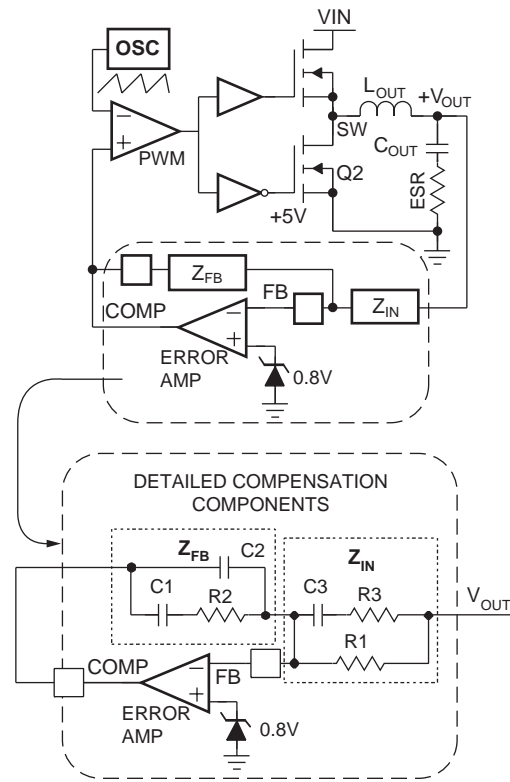

Figure 6. Voltage Mode Buck Converter Compensation Design
Figure 6 highlights the voltage-mode control loop for a synchronous-rectified buck converter. The output voltage (V_{OUT}) is regulated to the reference voltage level. The error amplifier (Error Amp) output ($V_{E/A}$) is compared with the oscillator (OSC) triangular wave to provide a pulse-width modulated (PWM) wave with an amplitude of V_{IN} at the SW node. The PWM wave is smoothed by the output LC filter (L_{OUT} and C_{OUT}).
1. The compensation network consists of the error amplifier (internal to the FAN6520B) and the impedance networks Z_{IN} and Z_{FB} . The goal of the compensation network is to provide a closed loop transfer function with the highest 0dB crossing frequency (F_{0dB}) and adequate phase margin. Phase margin is the difference between the closed loop phase at F_{0dB} and 180 degrees. The equations below relate the compensation network's poles, zeros and gain to the components ($R1$, $R2$, $R3$, $C1$, $C2$, and $C3$) in Figure 6.